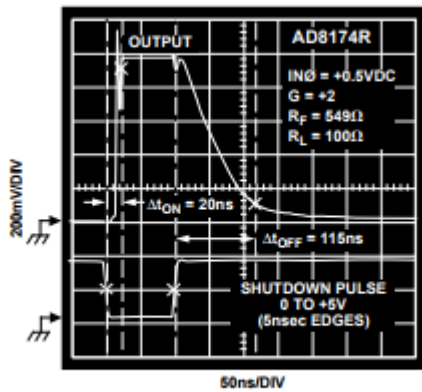

Figure 6. Shutdown Switching Characteristics
- 3AD8174 only.  $\overline{\text{ENABLE}}$  pin is grounded. Shutdown (SD) pin is driven with 0 V to +5 V pulse (5 ns rise and fall times). State of A0 and A1 logic inputs determines which channel is activated (i.e., if A0 = Logic 1 and A1 = Logic 0, then IN1 input is selected). Set IN0 (or IN2) = +0.5 V dc, IN1 (or IN3) = -0.5 V dc, and measure transition time from 50% of SD pulse (+2.5 V) to 90% of the total output voltage change. In Figure 6,  $\Delta t_{OFF}$  is the shutdown assert time,  $\Delta t_{ON}$  is the shutdown release time.